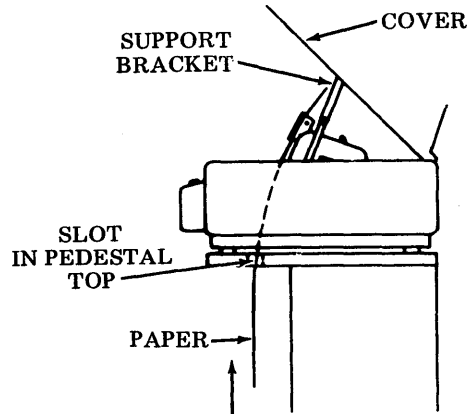

Fig. 53—Paper Routing
- (c) Feed paper up through printer, guide paper in back of ribbon and between upper paper guides (Fig. 53).